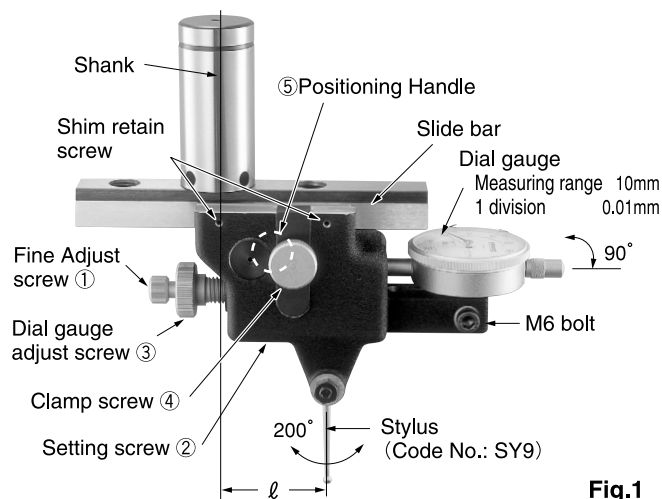

Fig.1
- Fit the attached dial gauge with M6 screw as per the illustration Fig.1.
1. Turn the fine adjust screw ① in a CW direction till it stops.
2. Loosen the setting screw ② with attached Hexagon wrench.
3. Turn the dial gauge adjust screw ③ in a CCW direction and set the sub-indicator to "0".
4. Tighten the setting screw ② to fix the dial adjust screw ③.
5. Turn the fine adjust screw ① CCW to set the sub-indicator to "5".
- ※In order to extend the measuring range, it can be adjusted to MAX. 10mm with the fine adjust screw ①.